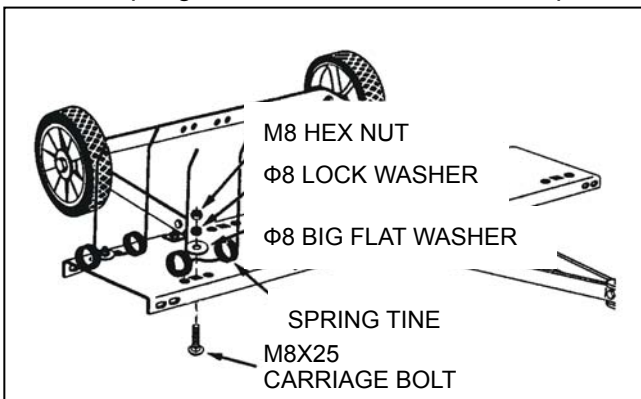

FIGURE 7
13. Fasten ten spring tines to the square holes in the bottom of the tine shield. Use a M8x25 carriage bolt, $\Phi 8$ big flat washer, $\Phi 8$ lock washer and M8 hex nut for each spring tine. Tighten. See figure 7. NOTE: Spring tines must seat between dimples.